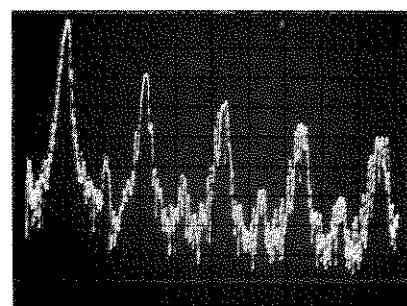

Figure 5-4. VCO Distortion Adjustment
8.2 Adjust A15R39 for min 2nd harmonic (Figure 5-4). Verify level is 35 dB below fundamental or lower.